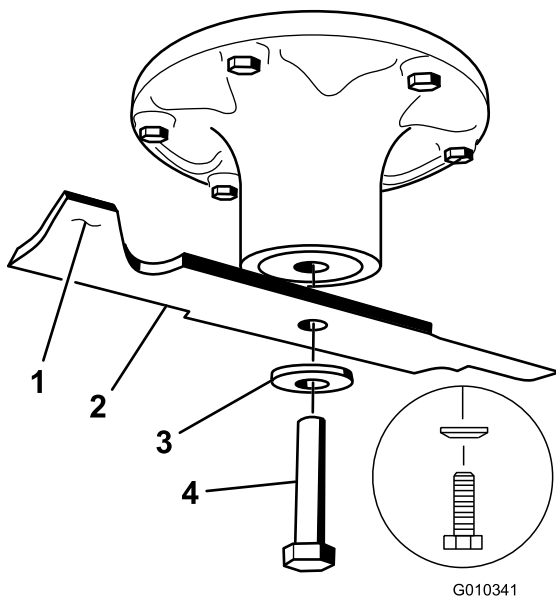

Figure 59
2. Remove the blade bolt, curved washer, and blade from the spindle shaft (Figure 59).
1. Install the blade onto the spindle shaft (Figure 59).
2. Install the spring disk and blade bolt with the spring disk cone installed toward the bolt head (Figure 59).